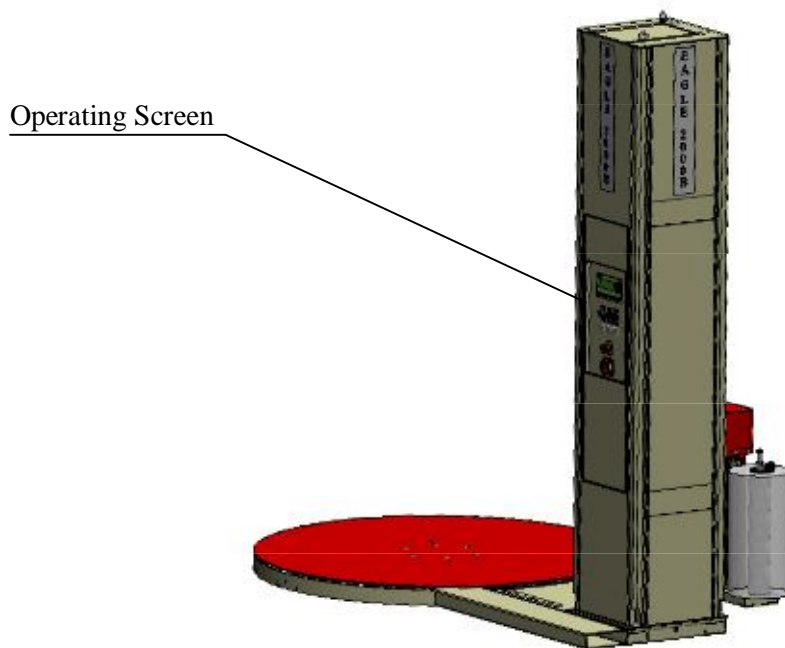

Fig 1
1.4 Position of Operation (Fig 1)